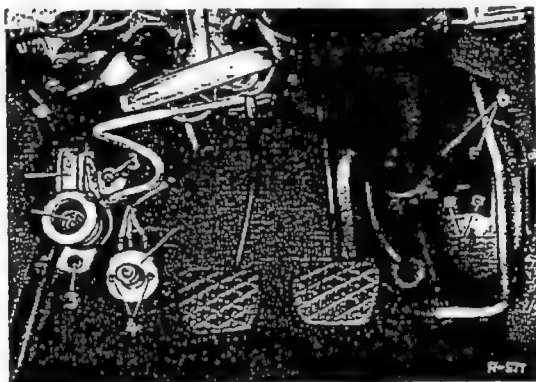

Fig. 82-5/1
3. Pull off the suction hose from the foot pump and screw out the two fixing screws (3) (Fig. 82-5/1).